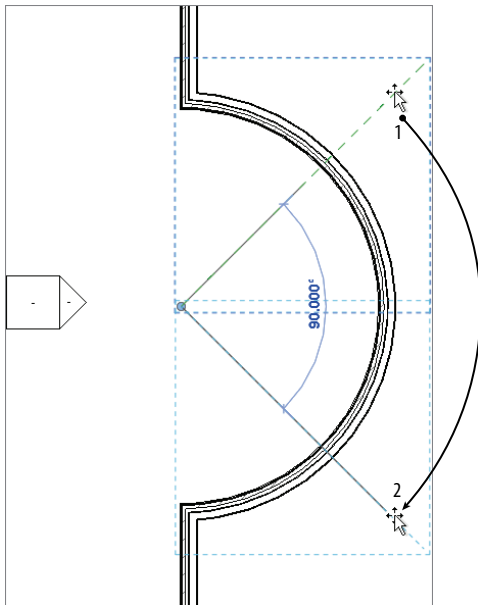

FIGURE 4.14: Specifying the two angles for the radial array
12. Move your cursor down until you see 90°. Then pick the second point (see Figure 4.14).